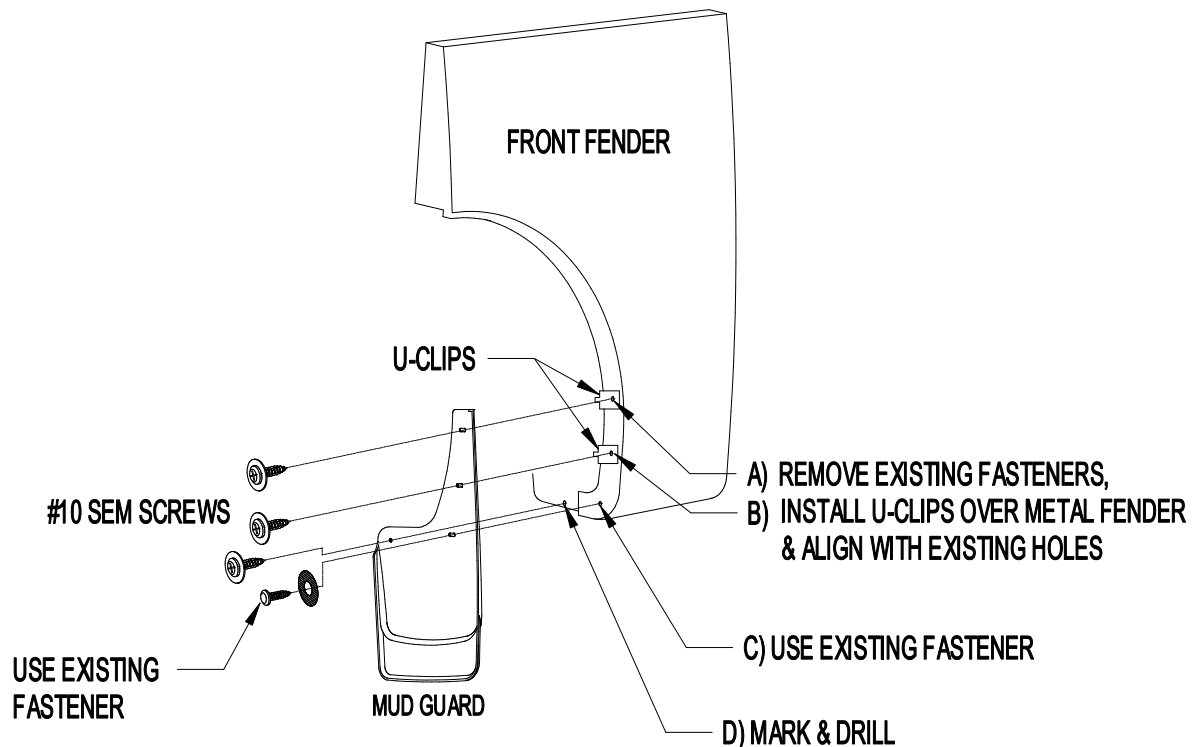

Figure 1
2. Remove existing fastener from location C (Figure 1).
6. Using the mud guard as a template mark and drill 1/8" hole at location D (Figure 1).